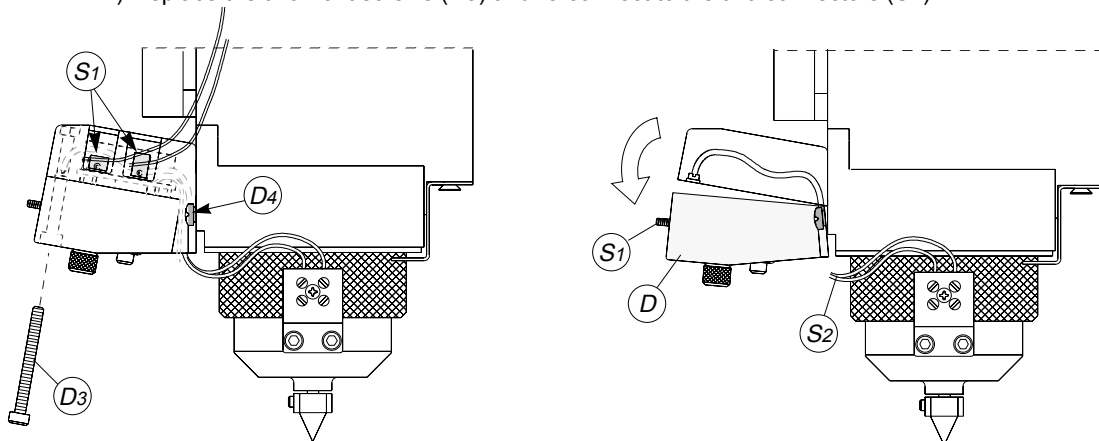

Fig. 30
- 2) disconnect the two connectors (S1) (fig. 30) and remove the two front screws (D3).
- 3) take hold of the whole unit (D) turn slightly downwards and remove.